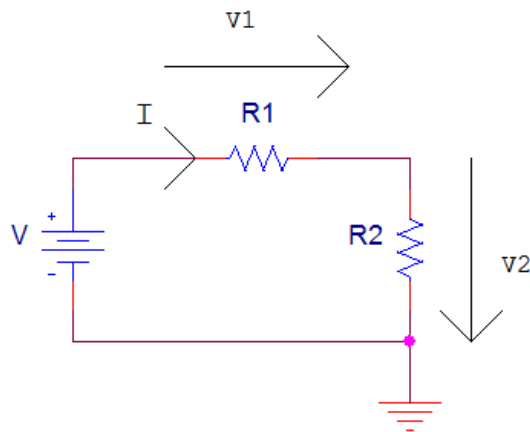

Fig.3. A simple voltage divider biased from a DC voltage source
Consider a simple voltage divider formed by one DC voltage source and two resistors (Fig.3). Observe that the negative terminal of the battery and the bottom terminal of R2 are grounded. In any spice simulator there must be a reference node with zero voltage potential. Otherwise, if the ground reference (with zero voltage potential) is not included in the diagram, the simulator may generate errors. The DC current (I) through the DC voltage source (V) is found through each of the two resistors because the components are mounted in series.
To draw the circuit in the Schematics editor, we will add some parts by using the mouse command **Draw-Get New Part...** (or the keyboard shortcut **CTRL+G**) (Fig.3).